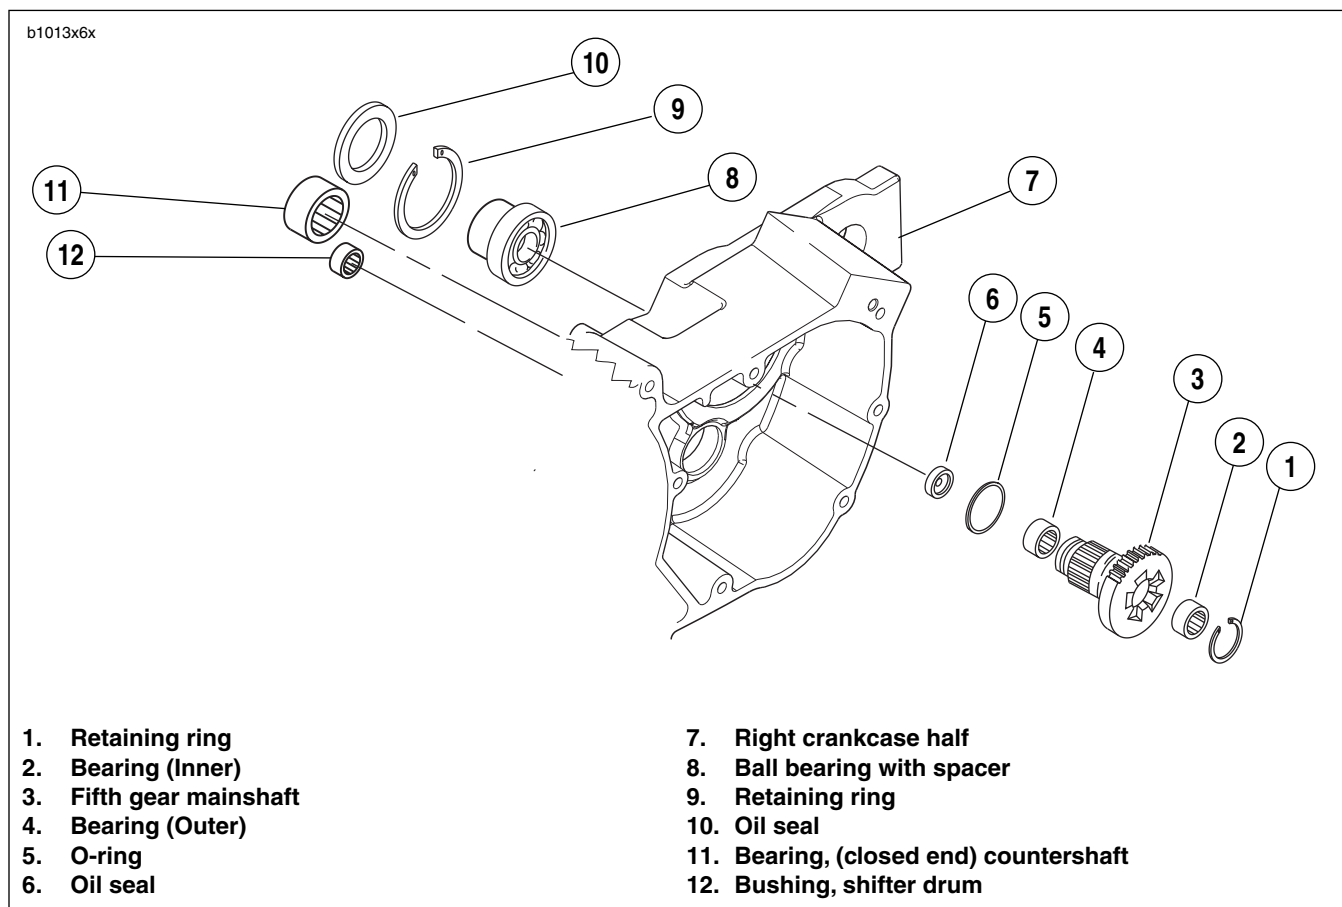

Figure 6-65. Transmission Assembly-Right Crankcase Half
1. See Figure 6-65. At outside of case remove and discard oil seal (10). Remove and discard main drive gear bearing retaining ring (9).
6. See Figure 6-65. At outside of case install **new** beveled retaining ring (9) in groove inside bearing bore with beveled side facing outside of case.